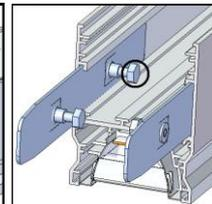

Fig.6
- For luminaires mounted autonomously cut lower bowl as in Fig.6. (OPAL version).